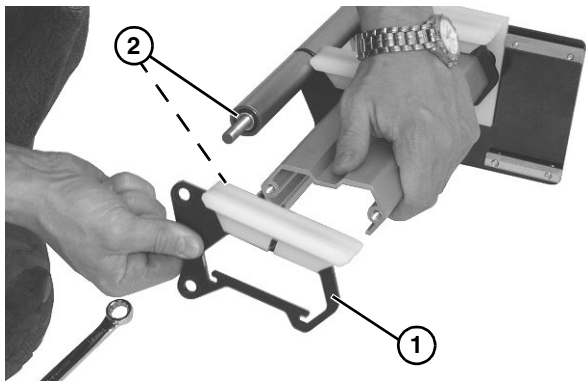

**Figure 47**
5. Remove upper nut (**Figure 47, item 1**) and spacer from end of axle shaft assembly.
6. Remove lower nut (**Figure 47, item 2**) and spacer from lower axle shaft assembly.